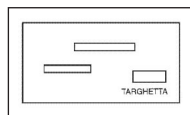

Fig 5.
12) Connect the machine to the electricity supply after having checked that the voltage corresponds to that on the plate on the rear panel of the machine (Fig.5).